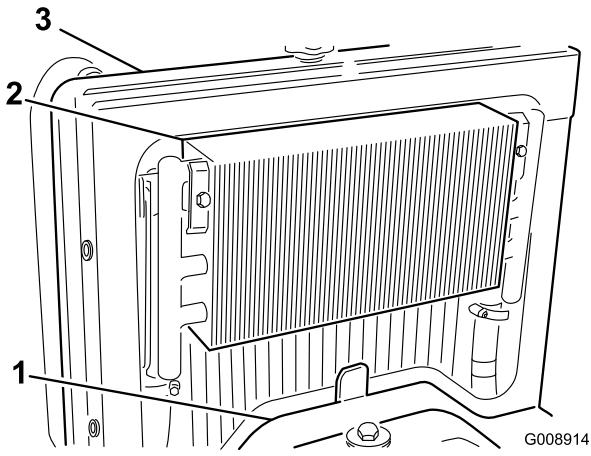

Figure 63
3. Remove the access panel (Figure 63).